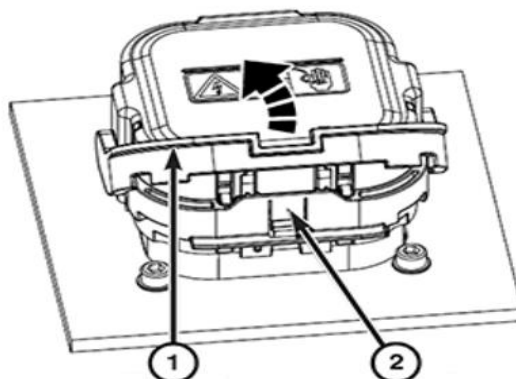

Figure 8 – MSD Locking Tab
11. Again, depress the locking tab (2) and continue to rotate the lever to the end of travel (90° position) (Figure 8).